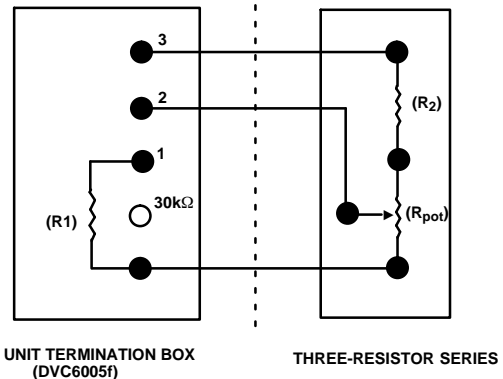

Figure 2-24. Terminal Details for Connecting a FIELDVUE DVC6005f Base Unit and a Three-Resistor Series
This procedure uses three resistors connected in series; two fixed resistors and one potentiometer. Three conditions must be met for the resistor combination to correctly operate the digital valve controller (refer to figure 2-24):
2. If necessary, install conduit between the base unit and the remote travel sensor following applicable local and national electrical codes. Route the 3-conductor shielded cable between the two units (refer to figure 2-24).